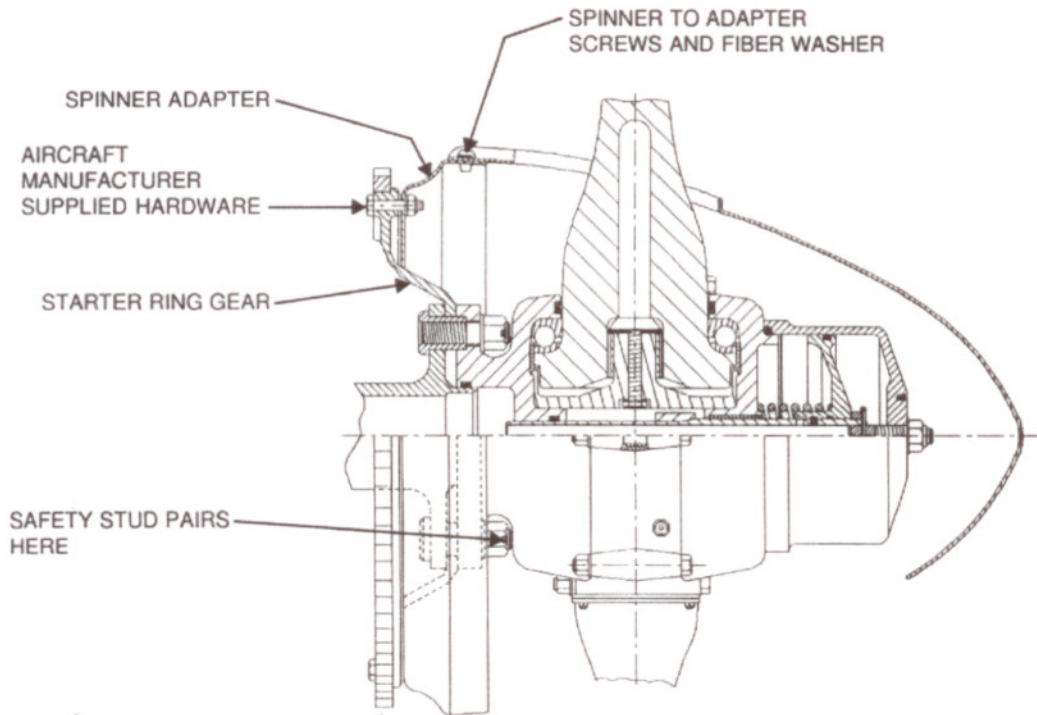

Figure 303 -Spinner Adapter and Spinner Mounting (Starter Ring Gear Mount)
CAUTION: INSTALL SPINNER ADAPTER BOLTS SO THAT THE BOLT HEADS ARE AT THE REAR OF THE STARTER RING GEAR AS INDICATED IN FIGURE 303. BOLTS INSTALLED INCORRECTLY MAY DAMAGE ENGINE COMPONENTS.
- (1) See Figure 303. Install the spinner adapter ring to the starter ring gear using the hardware supplied by the airframe manufacturer. Torque the bolts as specified by the airframe manufacturer.
- (5) Torque the $\frac{7}{16}$ inch mounting studs (dry) as indicated in Table 301. Safety wire mounting stud nut pairs. See Figure 303.
- (6) Install the propeller spinner dome in accordance with Spinner Installation within this chapter.
- (5) Torque the 1/2 inch propeller mounting studs (dry) as indicated in Table 301. Safety wire mounting stud nut pairs. See Figure 303.